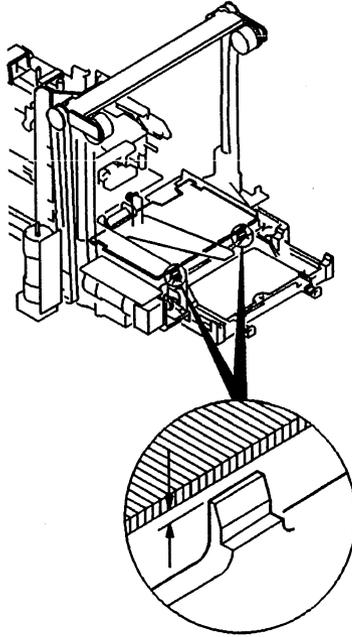

Figure 6-2. Checking the Platform Assembly
- 5 Starting with the platform slightly above vertical home, lower it gradually until the baseplate is close to the two machined lugs on the base casting (see Figure 6-2).